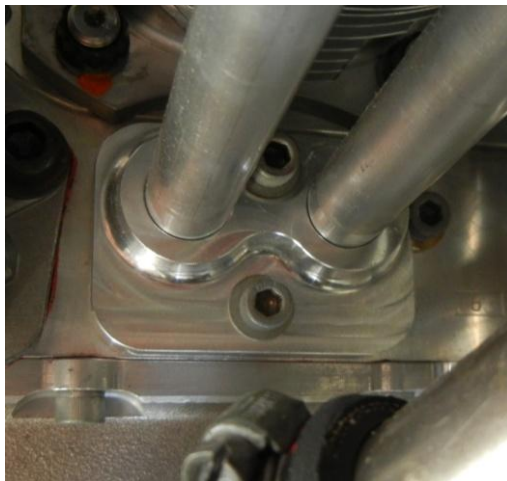

Figure 178 – Oil Return Manifold Fitted
6. **For roller follower models, the oil return manifolds can be fitted now. Fit new O rings and use a small amount of Loctite 515 to seal the manifold to the engine. Figure 178 shows the manifolds installed.**
7. Fit the pushrod tubes (2) to the crankcase.